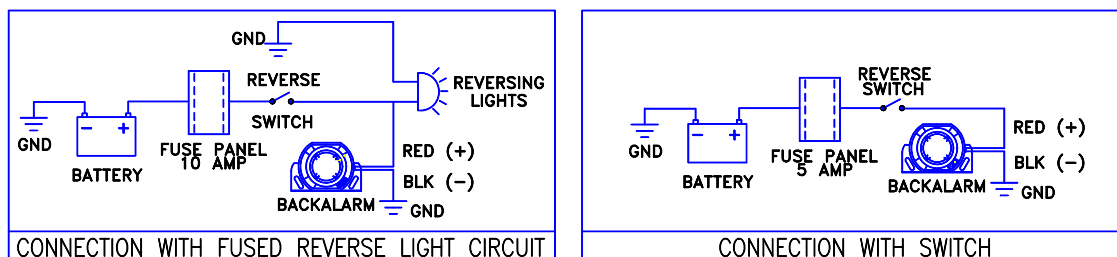

Figure 1
4. This unit requires a reliable power and ground connection for operation. Complete the wiring according to the wiring diagram shown in figure 1. Use 18 gauge wire (minimum) and observe correct polarity. **WARNING!!** Anytime the Backup Alarm is in operation, continuity must be maintained between the positive voltage of the power source and the positive terminal (+) of the Backup Alarm as well as between the negative terminal (-) of the Backup Alarm and the common ground (the machine member to which all wire grounds are connected). During operation the voltage differential between the positive voltage of the power source and the positive terminal (+) of the Backup Alarm shall not exceed 150mV. During operation the voltage differential between the common ground and the negative terminal (-) of the Backup Alarm shall not exceed 150mV. Route wire in a protected manner in accordance with vehicle manufacturer recommendations. **NOTE:** The back-up alarm is sensitive to polarity and will not operate when its power connections are reversed unless the product is a manually adjustable alarm (see below).